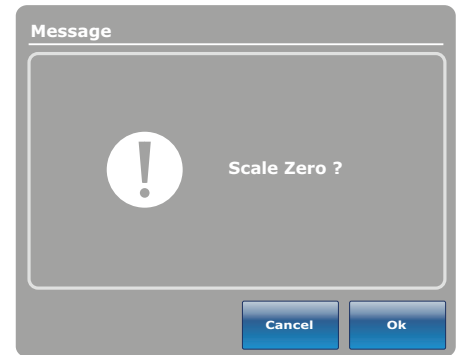

Figure 24 – Scale Zero?
2. To confirm setting the scale to zero, tap **Ok** (Figure 24).
To cancel the request, tap **Cancel** (Figure 24).